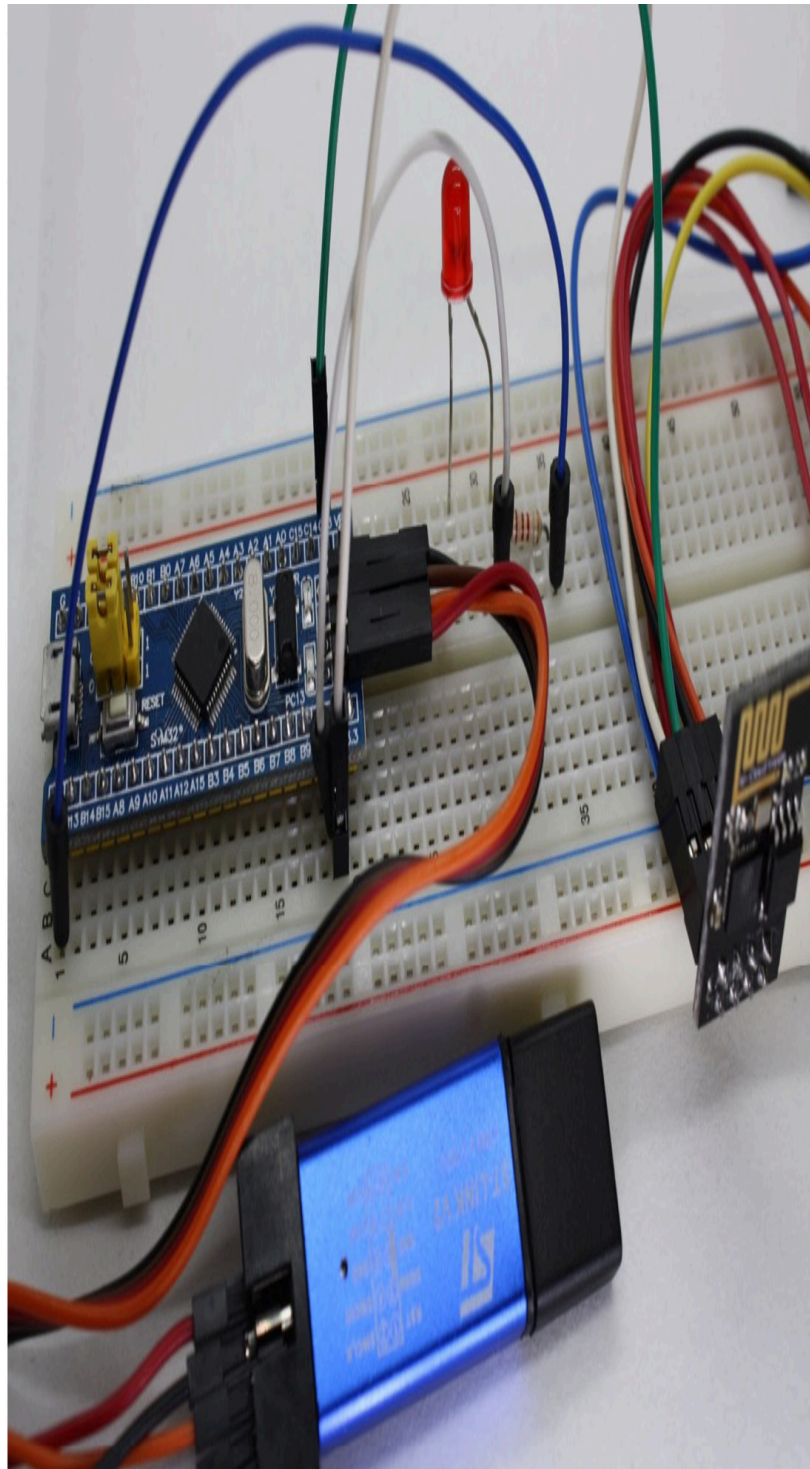

Figure 9.19 – Physical connections between the STM32 and SP-01
*Figure 9.19* shows the actual device connections between the STM32 and the SP-01: